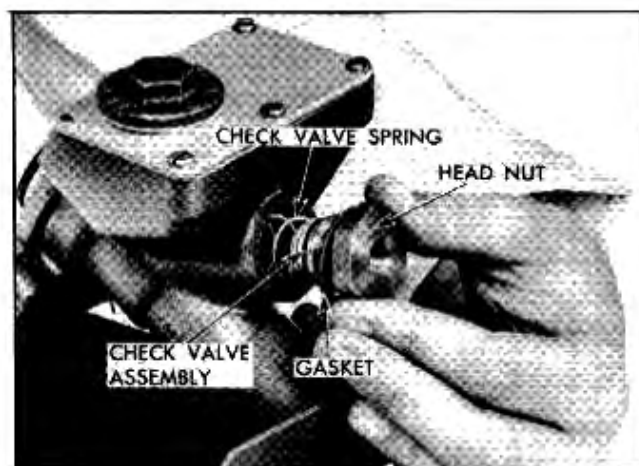

Fig. 5-51 Removing or Replacing Head Nut Assembly
5. Reset in vise or tool J-5433 and remove head nut assembly and copper gasket (Fig. 5-51) (Guard against check valve and check valve spring falling from hole as head nut assembly is loosened.) Remove rubber check valve seat washer which fits over the button on the head nut.